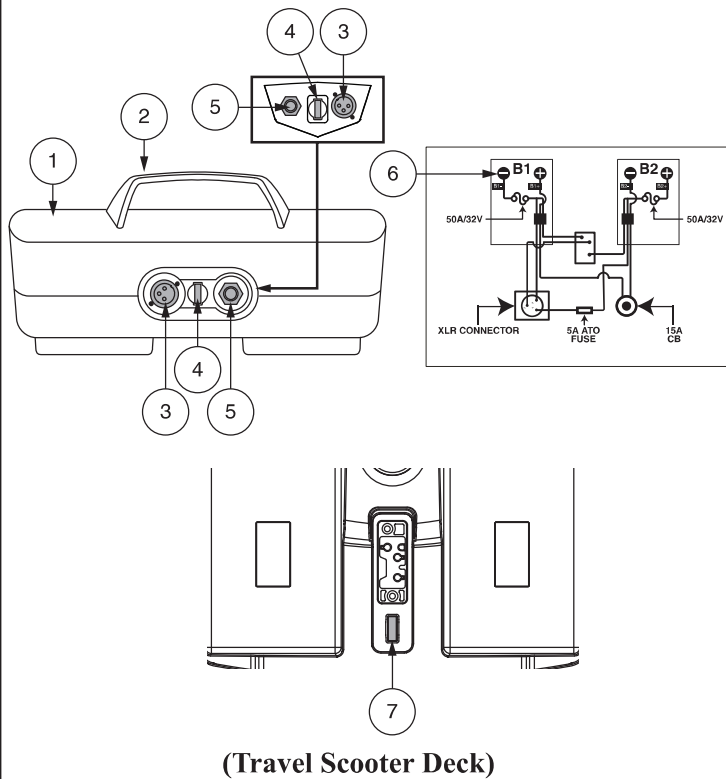

Figure 3. Battery Pack
When the voltage in your Travel Scooter's batteries becomes low or the Travel Scooter is heavily strained because of excessive loads or steep inclines, the main circuit breaker may trip to protect the motor and electronics from damage. **See figure 3.**
- Ensure that the fuse on the battery pack is in working condition. **See figure 3.**